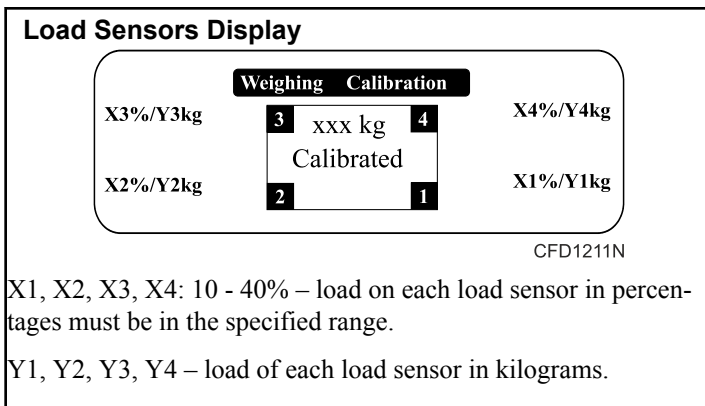

Figure 16
5. Place the machine on its final position. Refer to Figure 16 and Figure 17.
10. Install the covers (4), (5) and (6). In case that the machine is placed in a hygienic barrier, install also the sealing profile (7).
11. Check and if necessary adjust the height of the load sensor feet so that an even load distribution among all the load sensors is ensured. Refer to *Figure 16*.